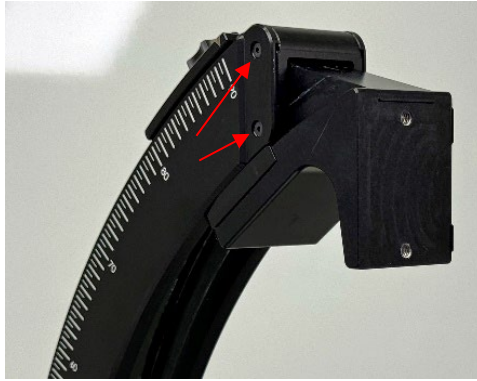

Figure 22. ARM end cap screws.
- B. Detach the ARM end-cap by loosening 4 screws and sliding it off from the ARM (Figure 22).